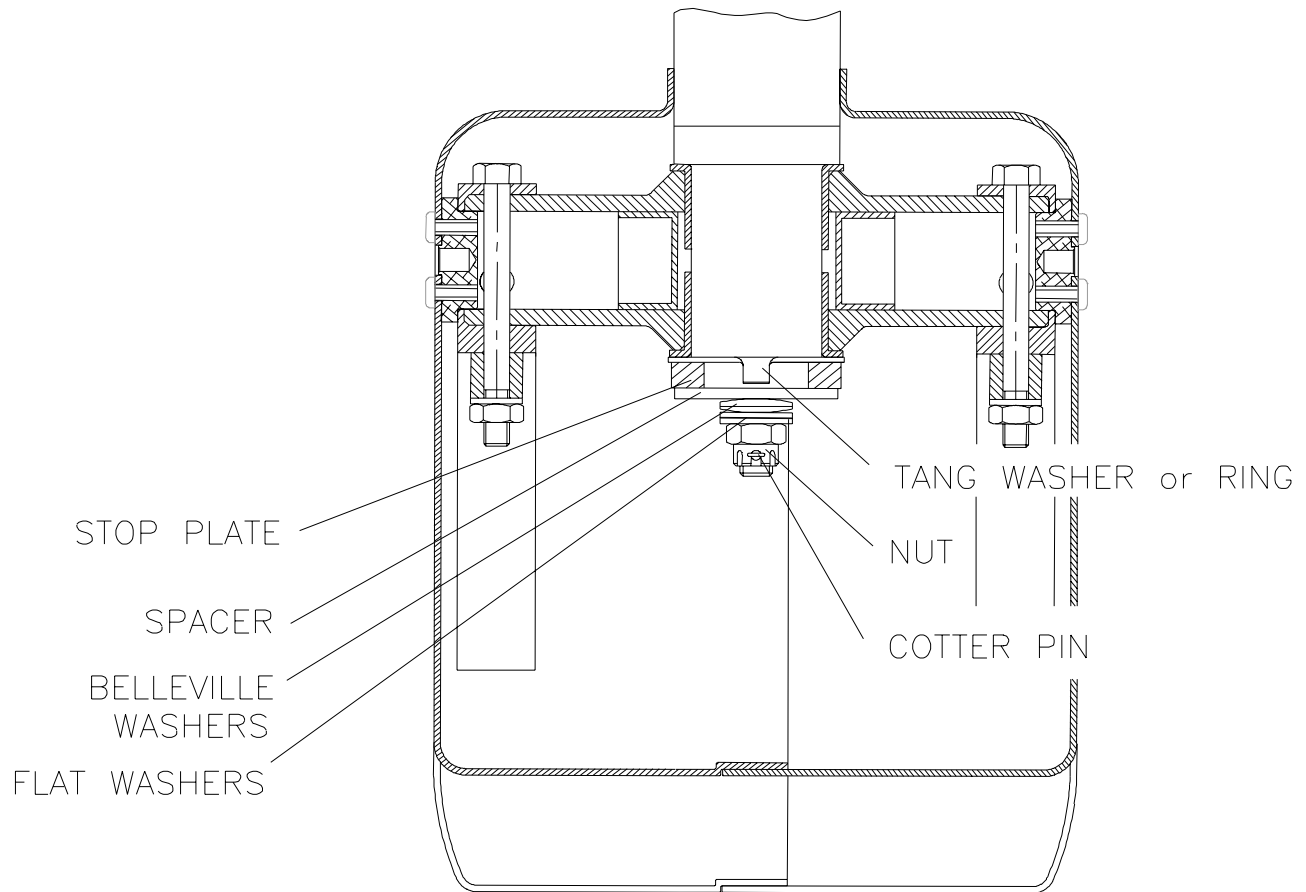

Figure 9
- 10.40 Complete the assembly in the same order as noted during removal (also refer to figure 9). Thoroughly pack the assembly with Aeroshell Grease 5.